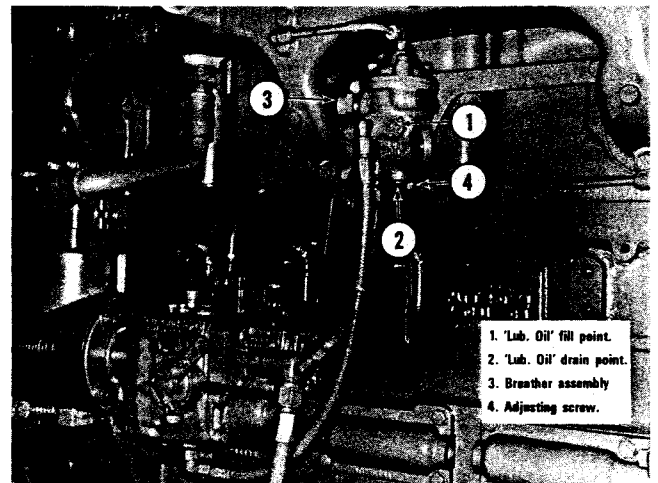

Fig. 2-64, (N10503). Aneroid
1. Remove fill plug (1, Fig. 2-64) from hole marked "Lub Oil".
Remove and replace aneroid breather (3, Fig. 2-64).